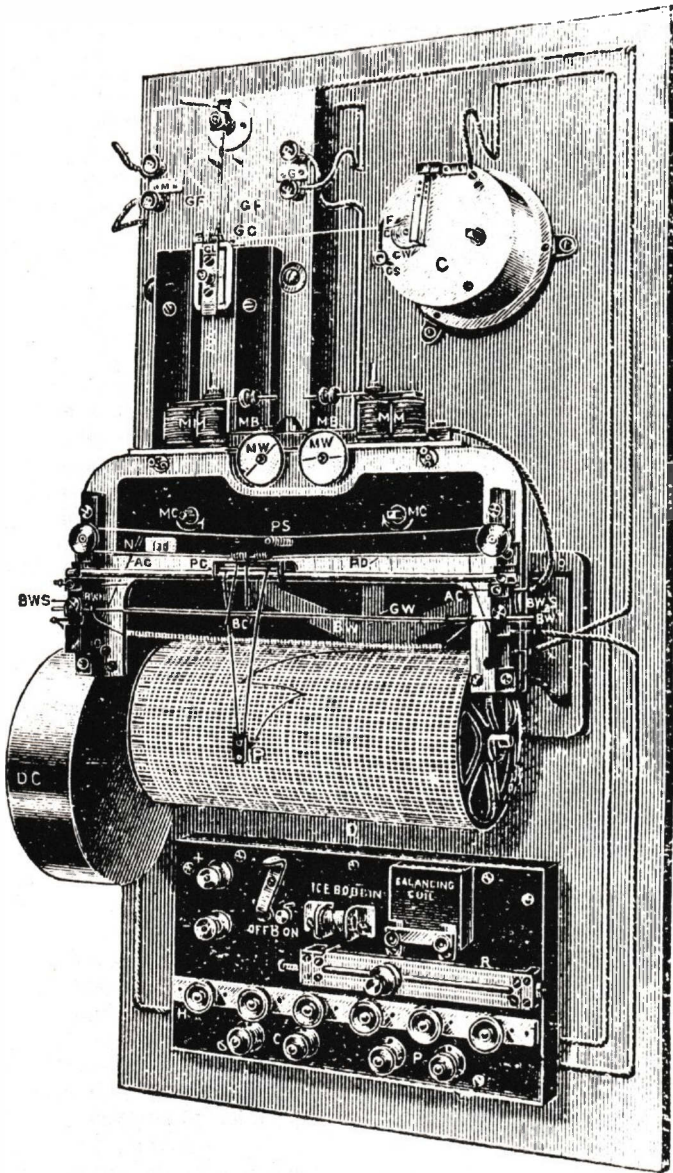

Fig. 15. Callendar's original potentiometric recorder was devised around 1898 to record furnace temperatures.
**Potentiometric recorders:** Around 1898 Professor Callendar devised his recording resistance pyrometer (Fig. 15) and in doing so provided instrumentation with the potentiometric or self-balancing recorder. This method makes use of a closed-loop system that causes the pointer to follow input signals. Referring to Fig. 16 the recorder has a drive motor mechanism which translates the pointer in one direction or the other depending upon the polarity of the signal driving the motor. Attached to the shaft driving the pen is a rotary resistance balancing potentiometer, as shown in Fig. 16a. Schematically this can be shown as a linear equivalent (the more recent design style used) as shown in Fig. 16(b). The potentiometer wiper moves across in unison with the pen and generates a changing